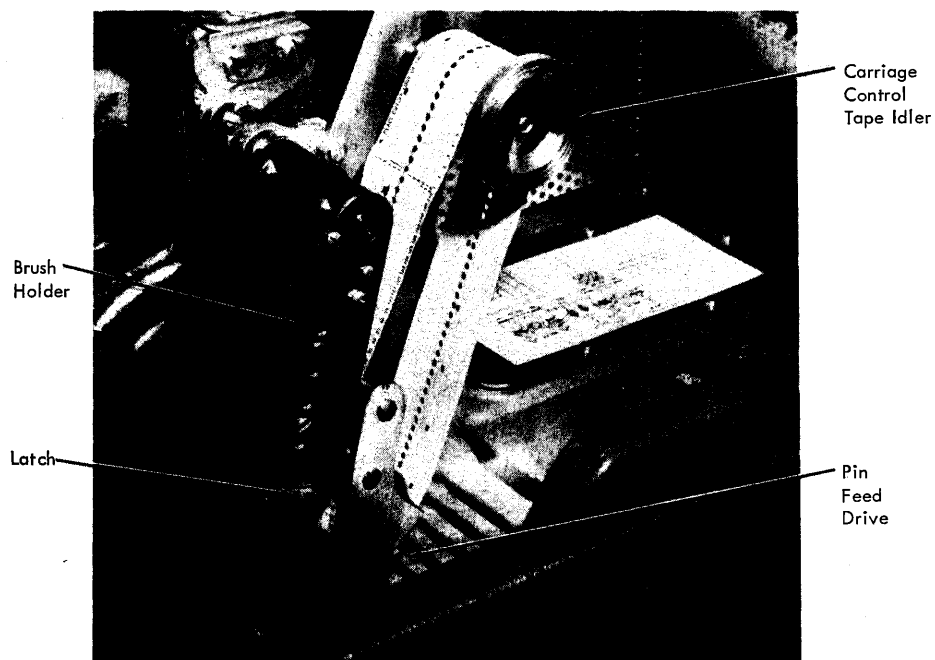

Figure 28. Tape Controlled Carriage
3. Raise the carriage brush holder (Figure 28) by pushing the latch on the side of the holder toward the front.